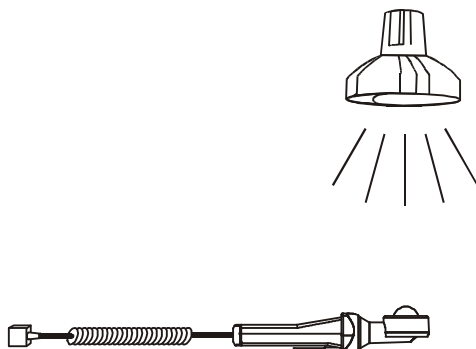

Figure 5.64: LUXmeter probe positioning
- Take the position of LUXmeter (see *Figure 5.64*). Make sure that LUXmeter is turned on.